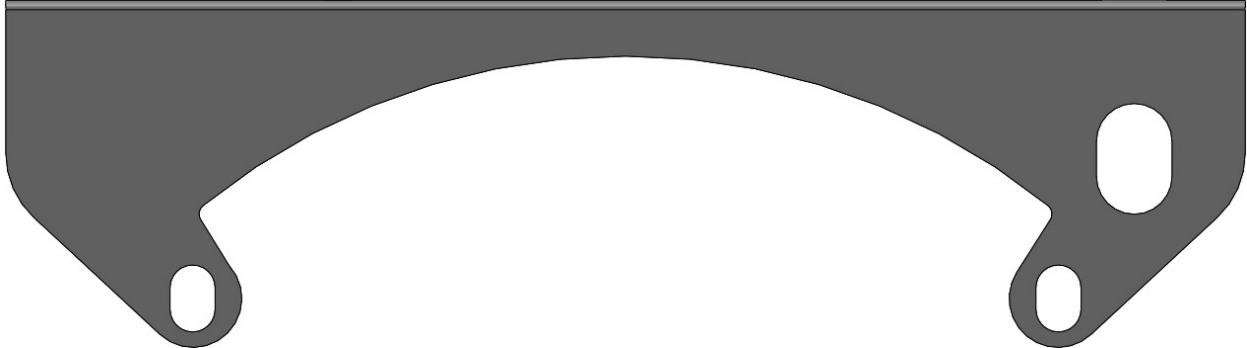

Figure 1
7. Install the mounting bracket as shown using supplied nylock nuts. Refer to Figure 1 for which holes to use. Tighten to torque as specified in Table 1.